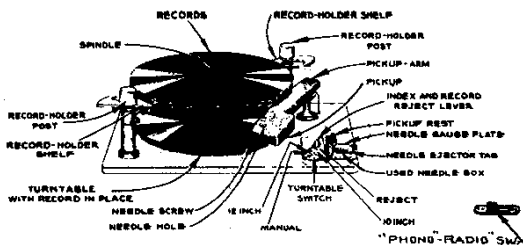

Figure 6
The two record holder posts (See Figure 6) are covered with paper held in place by rubber bands as is also the pickup. Remove these paper coverings.
TURNTABLE SWITCH: The Turntable Switch is a toggle type located in the front of the index plate on the motorboard (See Figure 6). It is used to start and stop the motor.
INDEX LEVER: The Index Lever moves in a small arc in the slot in the index plate. (See Figure 6). The plate is labeled for four positions of the lever - "Manual", "12", "10" and "Reject". If a single record is to be played the automatic record-changing feature will not be used and the Index Lever should be set to the "Manual" position.
Lift the Record Holder shelves, Figure 6, with the fingers underneath and revolve to clear the record circle, also push back the lever sticking up adjacent to the rear record holder post. You now have clear access to the turntable. Place the first record upon the turntable with the spindle protruding through the center of the record.
1. Move Index Lever to "Manual" position. See Figure 6.
3. Lift the record holder shelves and swing outwards. See Figure 6.
7. Turn on turntable switch. See Figure 6. The turntable will start revolving. Wait till it has reached its normal speed.
The phonograph will not shut off until the turntable switch (Figure 6) or the Receiver switch is turned off.